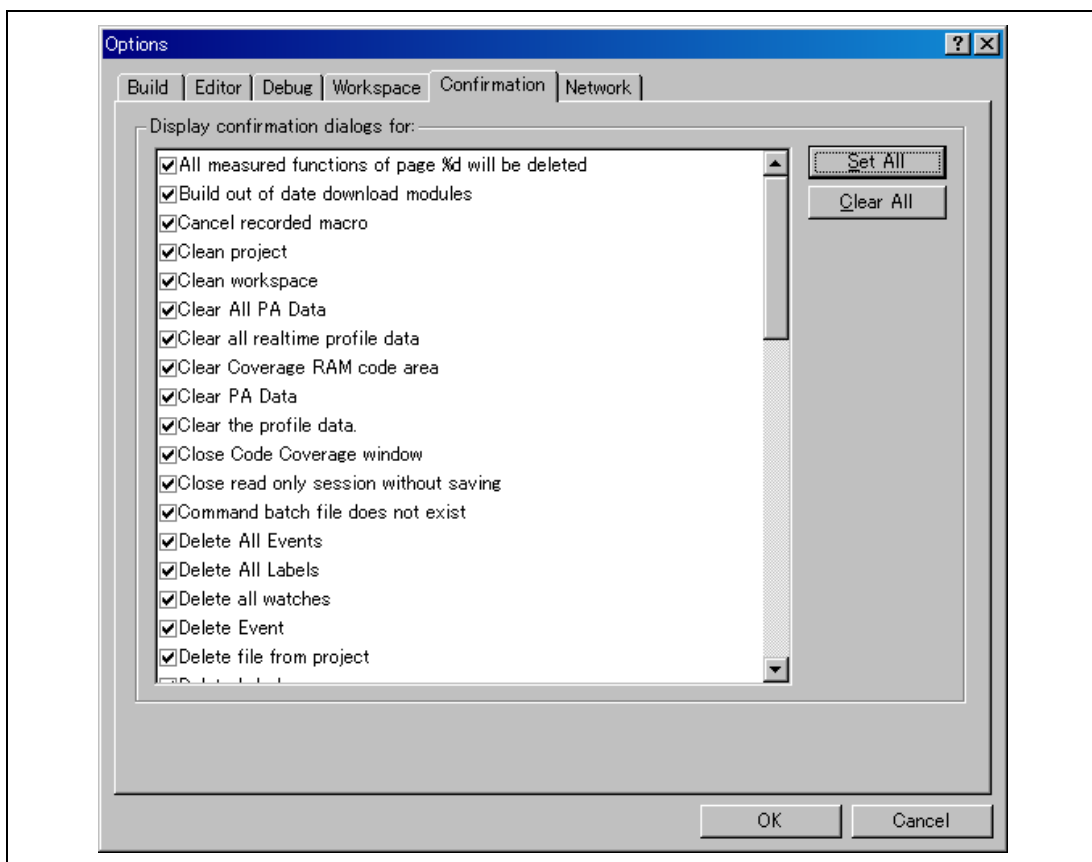

Figure 5.88 [Options] Dialog Box
- The [Load Stack Information Files (SNI files)] check box is checked in the [Confirmation] page of the [Options] dialog box (figure 5.88) that can be opened by choosing [Tools ->Options...]